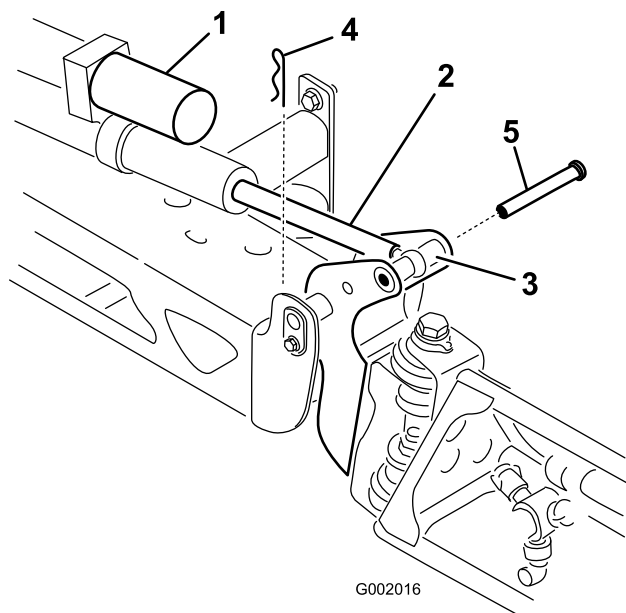

Figure 50
2. Remove the cotter pin from the pivot pin (Figure 50).
3. Lift up on the boom and remove the pin (Figure 50). Slowly lower the boom to the hardstop.
6. Lift up on the boom to align the pivot with the actuator rod. While holding the boom, insert the pin through both boom pivot and actuator rod (Figure 50).